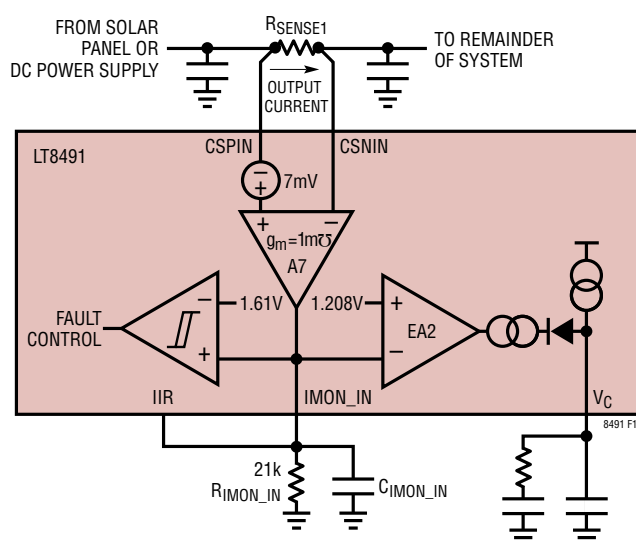
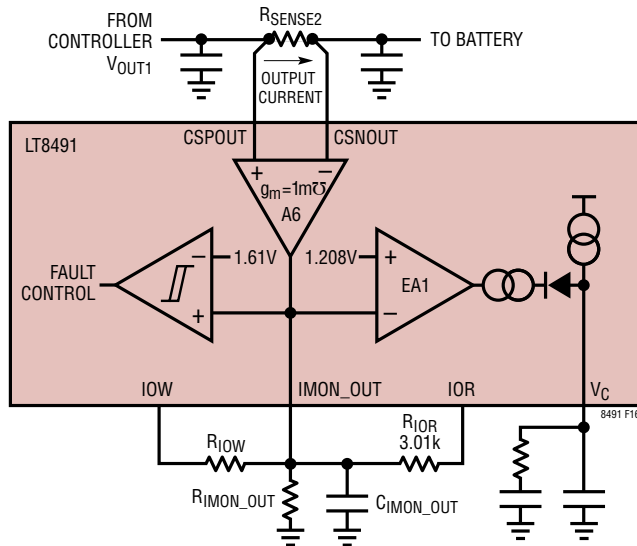
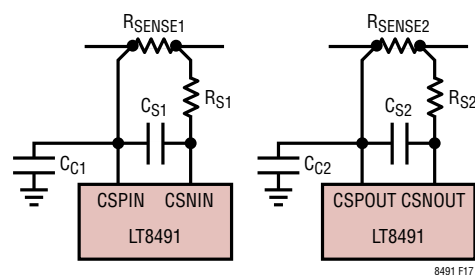

Figure 15. Input Current Regulation Loop
Figure 16. Output Current Regulation Loop
Figure 17. Recommended Current Sense Filter
In addition, note that the LT8491 uses the same circuit (shown in Figure 15) to measure the input current as to limit it. The input current is measured by an A/D conversion of the IIR pin which is connected to IMON\_IN and is proportional to input current. The digitized input current measurement is used to locate the maximum power point of the solar panel. Setting a higher input current limit reduces the resolution of the digitized reading of the input current. Avoid setting the input current limit significantly higher than necessary, as this may affect the accuracy of the maximum power point calculations.
**Configuring the Input Current Sense and Limit:** The input current is sensed through  $R_{SENSE1}$  as shown in Figure 15. The current through  $R_{SENSE1}$  is converted to a voltage on the IMON\_IN pin according to the following equation:
The maximum battery charging current, commonly referred to as C, is configured with the output current sensing and limiting circuit. The output current is sensed through  $R_{SENSE2}$  and converted to a proportional current flowing out of the IMON\_OUT pin (see Figure 16). An A/D measurement of the IOR pin voltage is used to determine
The  $C_{SX}$  and  $R_{SX}$  current sense filter components shown in Figure 17 can improve the accuracy of the input and output current measurements at low average current levels. Amplifiers A6 and A7 (Figure 15 and Figure 16) can only amplify positive  $R_{SENSE}$  voltages. Although the average  $R_{SENSE}$  voltage is always positive, the voltage ripple at low average current levels may contain negative components that are averaged out by the filter. Recommended values for  $R_{S1}$ ,  $R_{S2}$  and  $C_{S1}$ ,  $C_{S2}$  are 22Ω and 470nF.